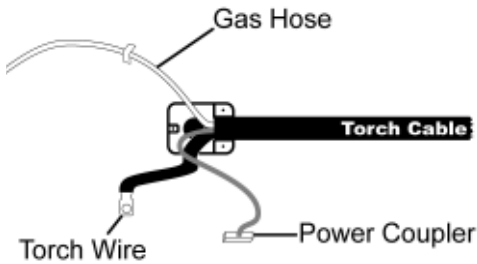

Figure 6. Junction Box
5. Place the Torch Cable into the junction box as shown in Figure 6. Make sure the outer sleeve of the Torch Cable is resting in the grooved portion of the junction box. The gas hose should exit the junction box at the top. The Power Coupler and